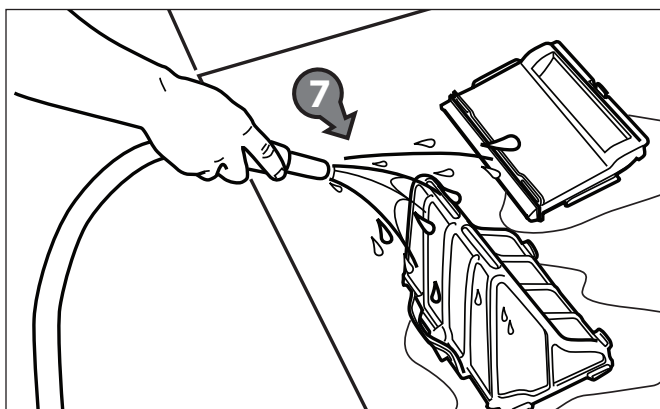

Figure 28. Wash Filter Canister
9. Wash the filter canister, the filter support, and the cleaner under water or using a hose (7). Refer to Figure 28.